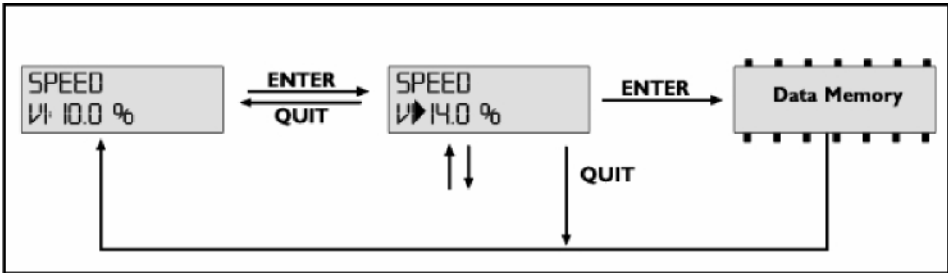

Figure 5.2
To enter a sub-menu, always press the ENTER key. To return to the main menu from a sub-menu, always press the QUIT key. For our example in Figure 5.2, we have chosen the main menu [SPEED].
-  Move into the sub-menu [SPEED V1]. The current value for V1 will be displayed (see Figure 5.2).